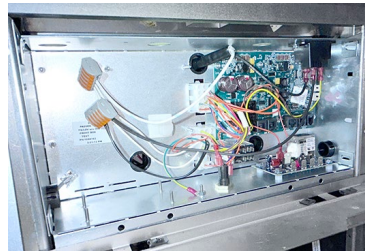

Figure 42
- 45. Insert the new control box into position and connect with a few screws (see Figure 42).